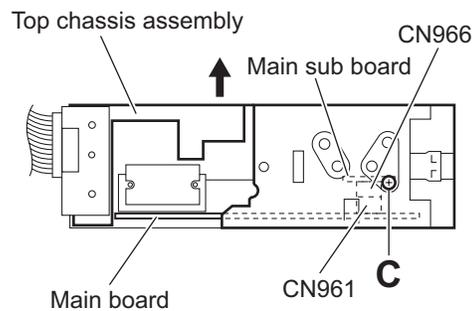

Fig.6
- Lift the top chassis assembly in the direction of the arrow and disconnect the connector **CN966** on the main sub board from the connector **CN961** on the main board. (See Fig.6.)